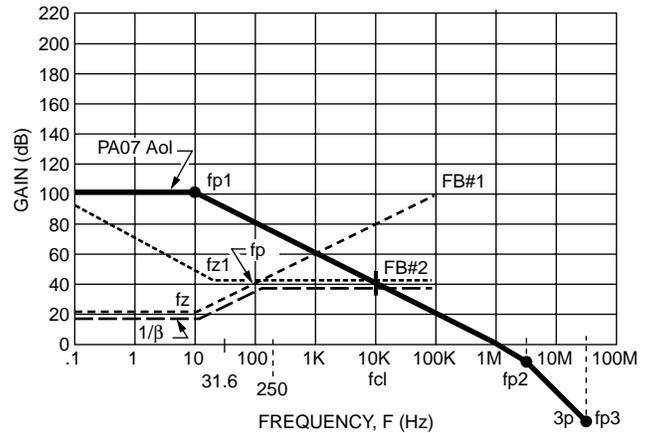

FIGURE 21. FINAL VALUE MAGNITUDE PLOT FOR STABILITY
STEP 5: We need to revisit FB#2 to make this V-I circuit stable. Figure 21 shows a new FB#2 and the resultant $1/\beta$ plot. Before we look at the open loop phase plot, let's discuss Figure 21. We see that in the PA07 Aol curve there is a pole at fp_1 , 10Hz, which will be a pole in our open loop phase plot. We also see a zero at f_z , 10Hz, in the $1/\beta$ plot, which will become a pole in our open loop phase plot. Now we have two poles at 10Hz in our open loop phase plot. To keep the open loop phase from reaching -180, we must add a zero at 100Hz to get 45 degrees of phase margin. Poles and zeroes a decade beyond f_{cl} , the intersection of $1/\beta$ and PA07 Aol, are of no concern for stability since at f_{cl} the loop gain is zero. The reason we must look a decade away from their physical location on the magnitude plot.